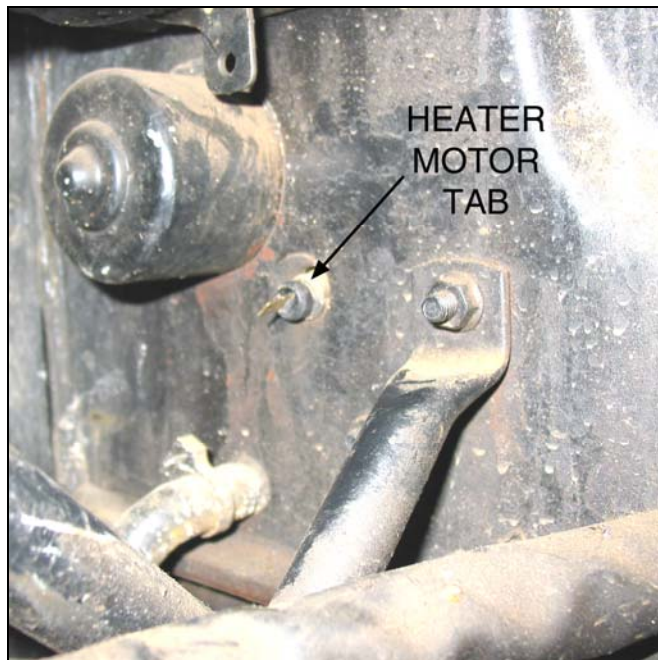

Figure 11.4.2 Heater Motor Tab
- 11.4.2** This tab can be found on the fire wall, under the battery tray. See **Figure 11.4.2**